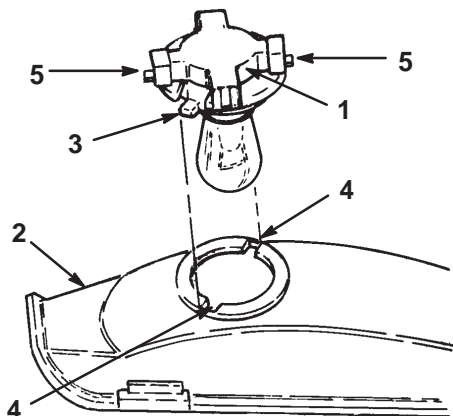

Figure 35
- Rotate the bulb holder 1/4 turn counterclockwise and remove it from the reflector (Fig. 35).
2. The bulb holder has two tabs (Fig. 35). Align the tabs with the slots in the reflector, insert the bulb holder into the reflector and rotate it 1/4 turn clockwise until it stops.